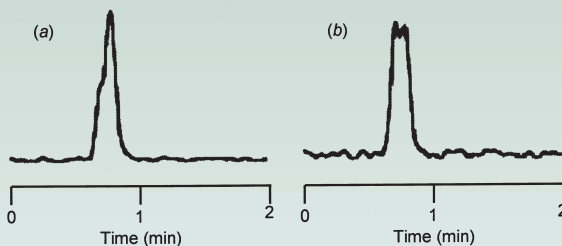

Figure 4. Split peaks due to the presence of a second component. (a) 25 ng/mL, and (b) 10 ng/mL of drug (second peak) in plasma. Adapted from [1].
1.4. Poorly resolved peaks can masquerade as a column or a buffer problem. If two peaks are only partially resolved, peak splitting or doubling can occur. This is seen in Figure 4. In Figure 4a, peak distortion, much like that of Figure 3, was observed, suggesting a blocked frit. Changing the column did not correct the problem, so a blocked frit was unlikely. When the mass of sample on column was reduced (Fig. 4b), the peak looked more like two peaks than a shoulder. This led to further investigation and it was determined that a second peak was present. The method conditions were modified to fully separate the two peaks.